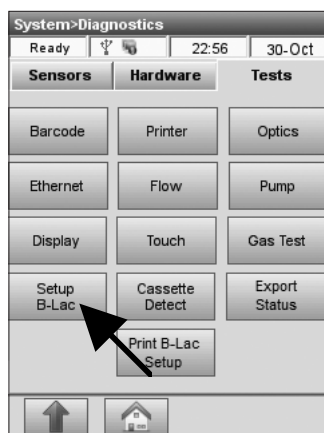

Fig. 8-35 B-Lac Setup
- Press **<Setup B-Lac>** (Fig. 8-35).